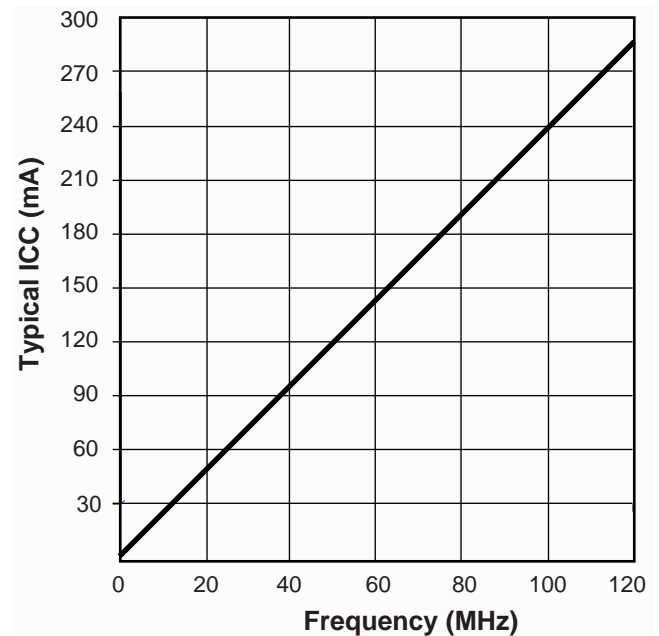

Figure 1: XCR3512XL Typical  $I_{CC}$  vs. Frequency at  $V_{CC} = 3.3V, 25^{\circ}C$
Xilinx offers a TotalCMOS CPLD, both in process technology and design technique. Xilinx employs a cascade of CMOS gates to implement its sum of products instead of the traditional sense amp approach. This CMOS gate implementation allows Xilinx to offer CPLDs that are both high performance and low power, breaking the paradigm that to have low power, you must have low performance. Refer to Figure 1 and Table 1 showing the  $I_{CC}$  vs. Frequency of our XCR3512XL TotalCMOS CPLD (data taken with 32 resettable up/down, 16-bit counters at 3.3V, 25°C).
4. See Table 1, Figure 1 for typical values.